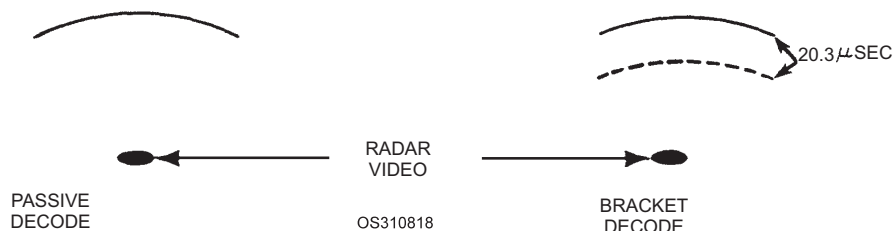

Figure 8-18.—Example showing bracket decode.
You may want to use the bracket decode operation for modes 1, 2, 3/A, and C. The bracket decode is a check for the occurrence of the bracket (f_1 and f_2) pulses, which frame all IFF reply code trains for the SIF modes and mode C. Positioning the BKT/OFF switch (UPA-59, UPA-59A) or BKT/OFF/ALL (UPA-59B) switch (10) to BKT will provide a single 0.4 μ s pulse for all SIF and mode C replies, regardless of code content. See figures 8-18 and 8-19. In the ALL position, decoded bracket pulses for all modes being challenged by the selected interrogator will be displayed, rather than just those modes selected at that AN/UPA-59B decoder position. For certain target overlap (garbled) conditions, the bracket decode may be inhibited and not displayed.